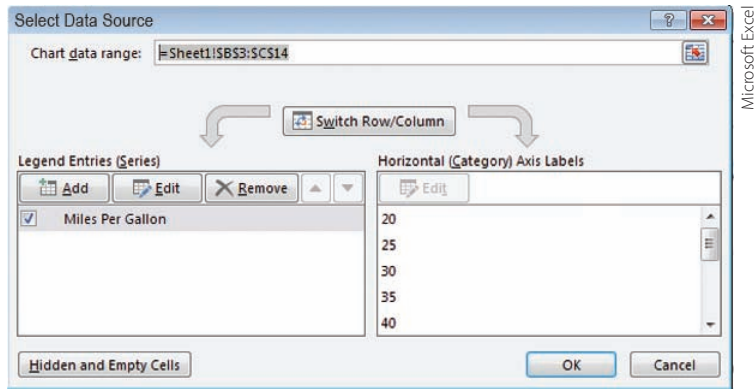
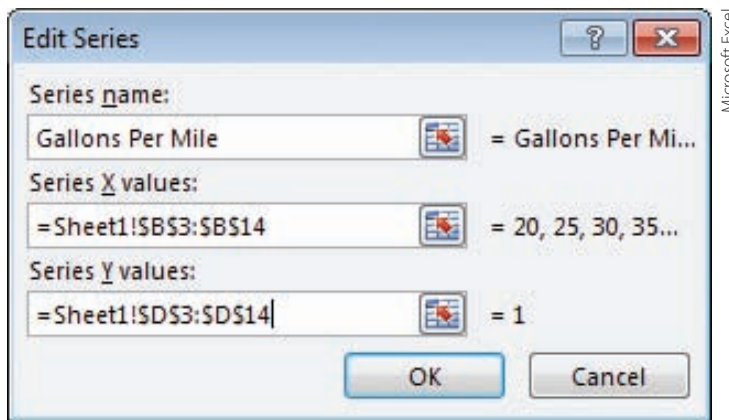

FIGURE 14.22 Select Data Source.
FIGURE 14.23 Choosing Series X and Y values.
4. In the **Select Data Source**, under Legend Entries, click on the Add button (Figure 14.22), then type in the series name and choose the Series X values and Series Y values, as shown in Figure 14.23.